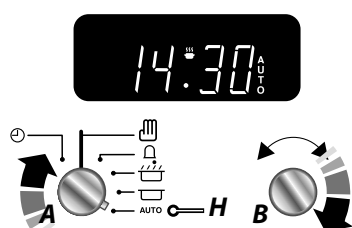

Fig. 2.29
6. When the program starts the Multifunction Oven, the 'Cooking' symbol will appear on the display. Once the specified time has elapsed it will emit an alarm and the Multifunction Oven will stop working. The 'Cooking' symbol on the display will disappear and the word 'AUTO' will flash (**Fig. 2.29**).